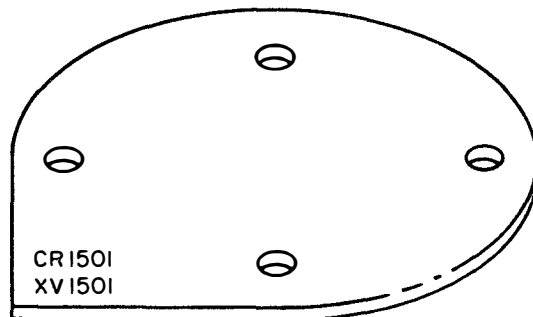

Figure 1. Insulating Disk
4. Unbolt tube socket XV1501 and remove the tube socket and the accompanying insulating disk. Add item no. 2, the disk marked CR1501, below the old disk. Replace both disks and the tube socket to the original mounting position. Bolt in place. (See figure 1.)